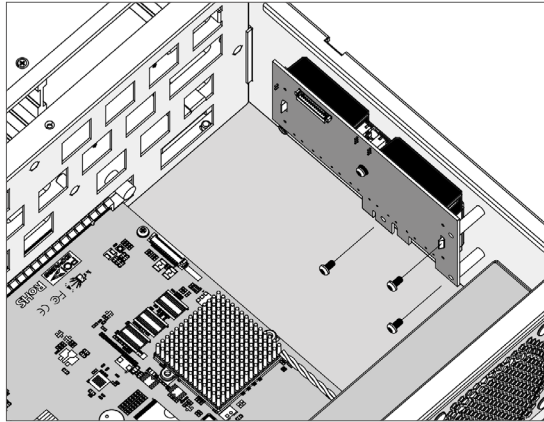

Figure B-10, Secure the Battery Module
2. After removing the cover, then secure the battery pack module (ARC-1883-BAT/CAP, reference NO.1 and NO.2 in Figure B-5) on the right side within the enclosure (for ARC-7208 & ARC-7212), as shown in Figure B-10.